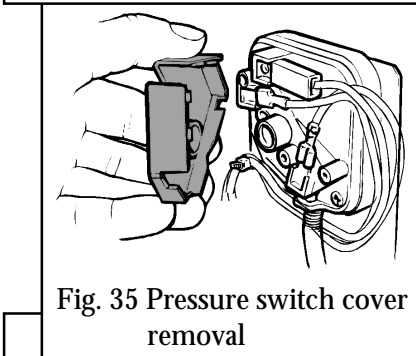

Fig. 35 Pressure switch cover removal
13.10.4 Remove the pressure switch cover (figure 35). Disconnect the three leads (Yellow, orange & white) from the air pressure switch.
13.11.3 Remove the pressure switch cover (figure 35). Disconnect the three leads (Yellow, orange & white) from the air pressure switch.